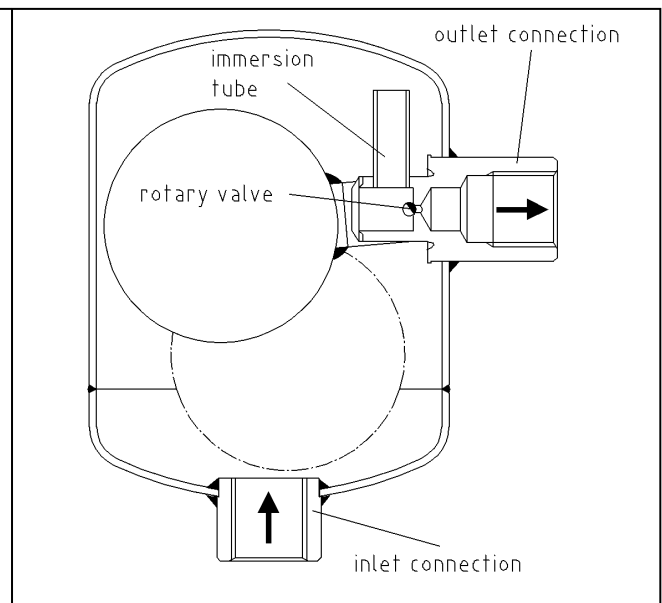

Fig. 2: Automatic vent valve type 8064
- + The automatic vent valve is installed upside down (Fig. 2). The inlet connection is located at the bottom. Install a shut-off valve (preferably a ball valve) in the rising pipe to the vent valve.
- + Fitting position according to Fig. 2